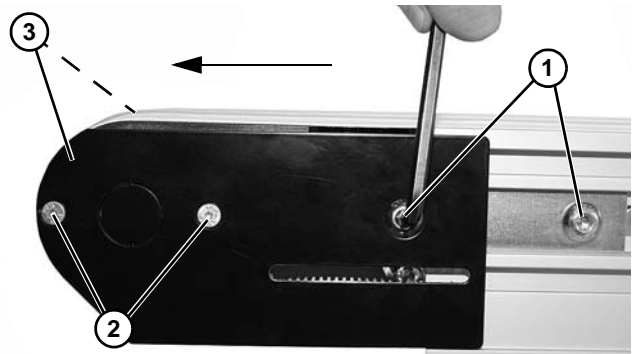

Figure 73
1. Remove idler tail from conveyor frame by loosening bolts (**Figure 73, item 1**) on both sides of conveyor.
2. With tail assembly on an open work surface, remove flat head screws (**Figure 73, item 2**) from both sides of tail assembly to remove side plate (**Figure 73, item 3**).